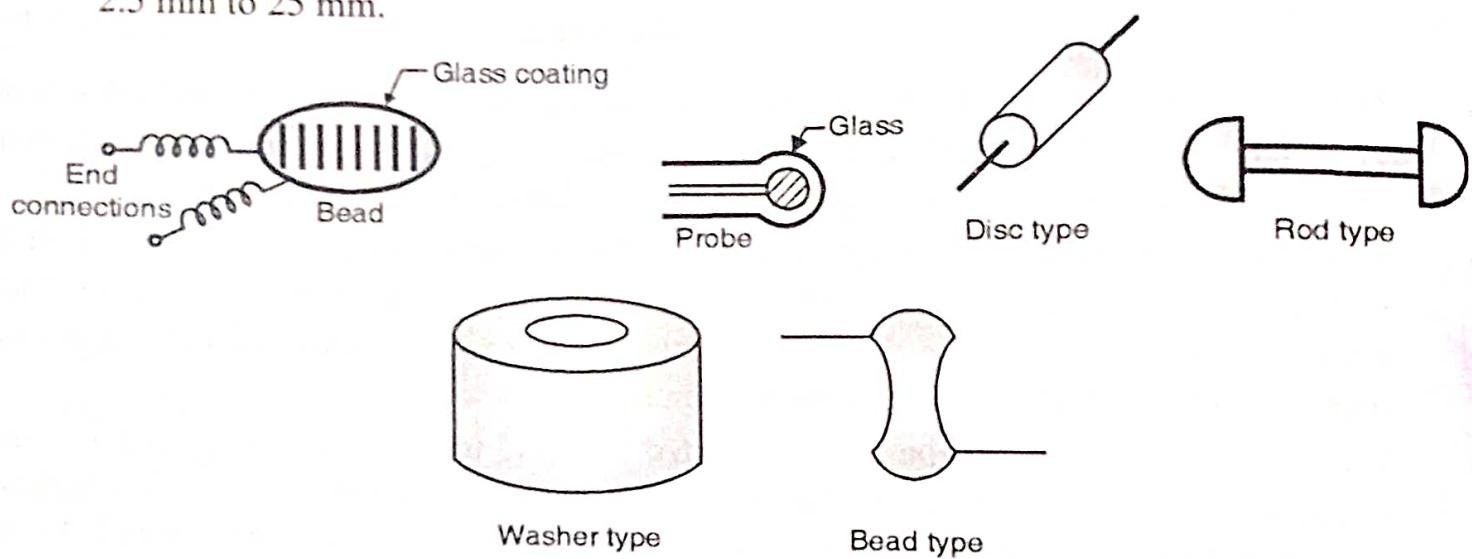

Fig. 1.12.17 : Configurations of thermistors
- Thermistors are available in various configurations such as small beads, disks, rods etc. as shown in Fig. 1.12.17.